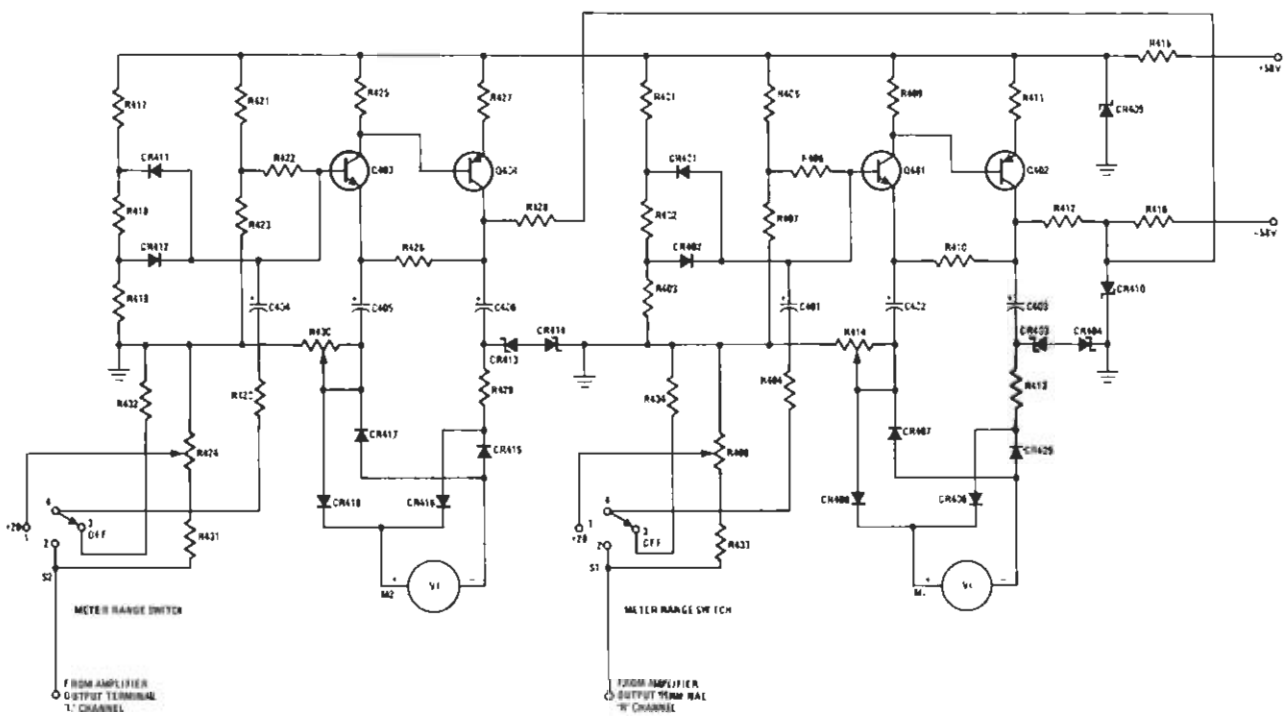

FIGURE 3 - 250 METERING CIRCUIT SIMPLIFIED DIAGRAM
**Page 4** — Replace Figure 3. (250 Metering Circuit Simplified Diagram) with Figure 3. contained herein.
**Page 7** — In Table I, for "AC Power Control Box," replace "Fabricate in accordance with Figure 3." with "Fabricate in accordance with Figure 4."; for "Amplifier Output Load Box," replace "Fabricate in accordance with Figure 4." with "Fabricate in accordance with Figure 5."